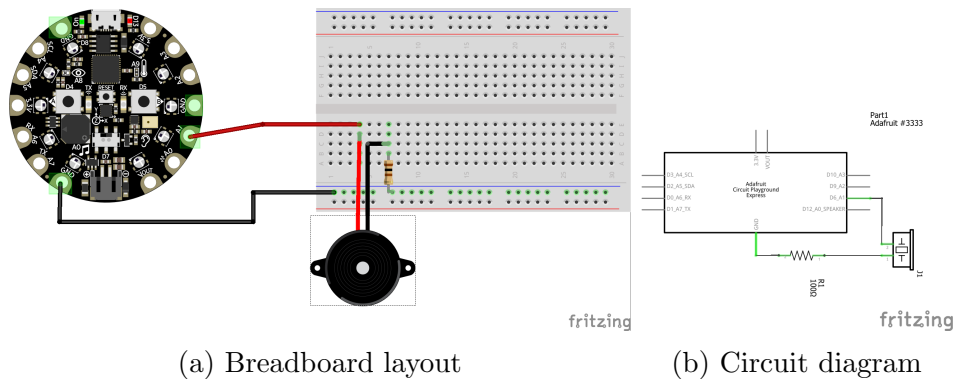

Figure 4: Diagrams for attaching external Buzzer to CPX
1. Connect the buzzer to the CPX. Wiring is very similar to the LED example above, simply change the actuator and the resistor. Lower resistance gives higher volume, so try a 100 ohm resistor. See Figure 4.
2. Use the same connections as the previous example (Figure 4)